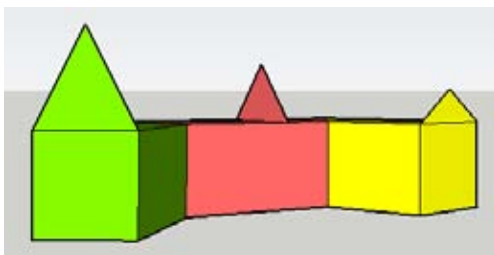

Figure 5-64
1. Download my Roof Corners model shown in Figure 5-64 from the 3D Warehouse. This building has three sections that meet at the corners. None of the edges is along the red or green axis, and each section has its own peak face to use for the roof. The green peak is the highest, followed by the red, and the yellow peak is the lowest.